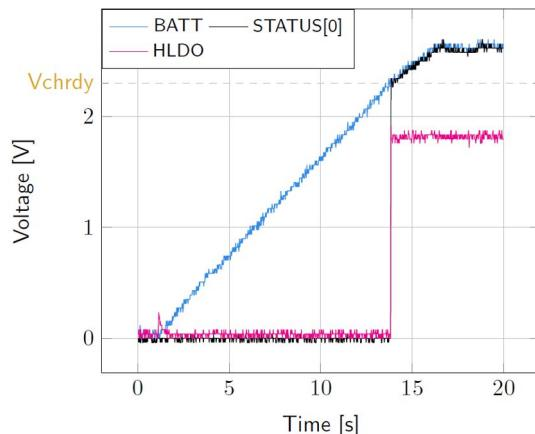

Figure 3: **STATUS[0]** and **HVOUT** evolution with **BATT**
- **BATT**: voltage rises as the power provided by the source is transferred to the storage element (see Figure 3).
- **HVOUT/LVOUT**: regulated when voltage on **BATT** first rises above  $V_{CHRDY}$  (see Figure 3).
- **STATUS[0]**: asserted when the LDOs are ready to be enabled (refer to the AEM30940 datasheet “Normal Mode” section) (see Figure 3).